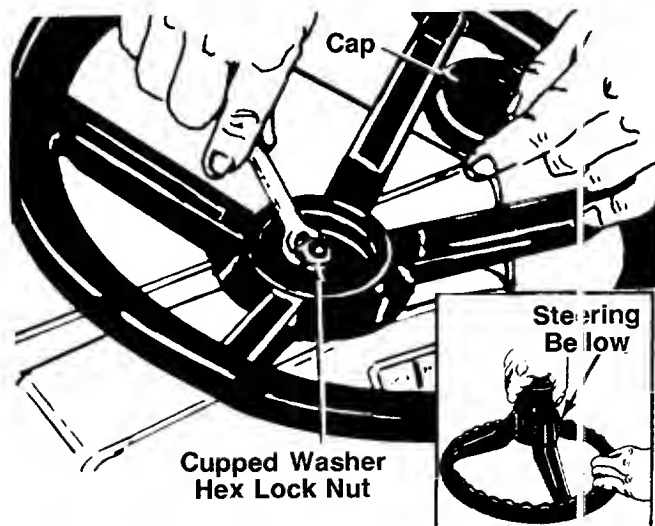

FIGURE 5.
2. Attach one end of the plastic steering bellow to the steering wheel as shown in figure 5, inset.
5. Place the washer with the cupped side down over the steering shaft. Secure with 5/16" hex lock nut. See figure 5.